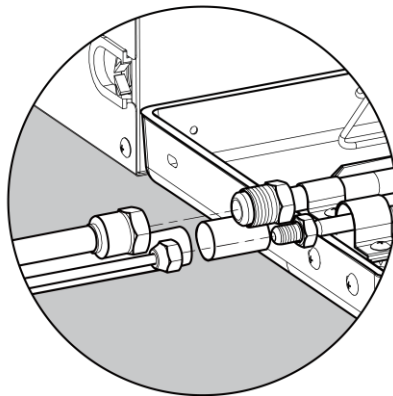

Fig. 4.4
- (1) Remove pipe cover and pipe plug.
- (2) Direct the flared part of copper pipe to the center of screwed joint. Twist on the flared nut tightly by hand, as in Fig. 4.4 (Make sure indoor pipe is correctly connected. Improper location of the center will prevent flared nut from being securely twisted. Thread of nut will get damaged if the flared nut is twisted forcibly).